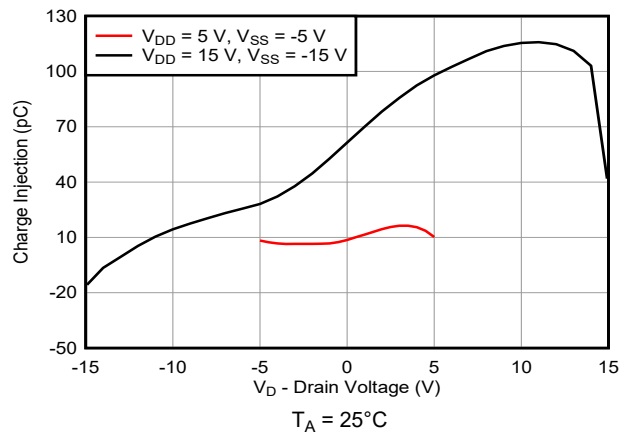

图 8-2. Charge Injection vs Drain Voltage
The low on-resistance of TMUX6236 and ultra-low charge injection performance make this device an excellent choice for implementing high precision industrial systems. The TMUX6236 contains specialized architecture to reduce charge injection on the Drain side (D) (for more details, see 节 7.2.7). 图 8-2 shows the plot for the charge injection versus source voltage for the TMUX6236.